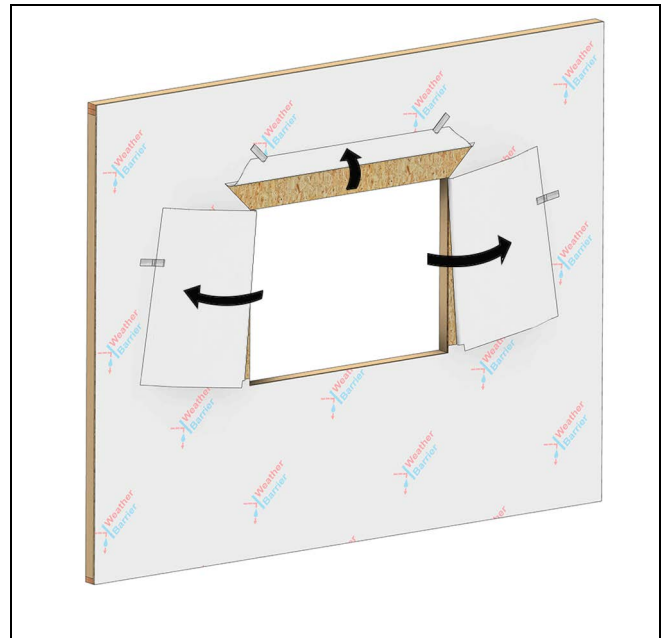

Figure 19
2. Flip the top up and side flaps away and tack temporarily. See Figure 19.